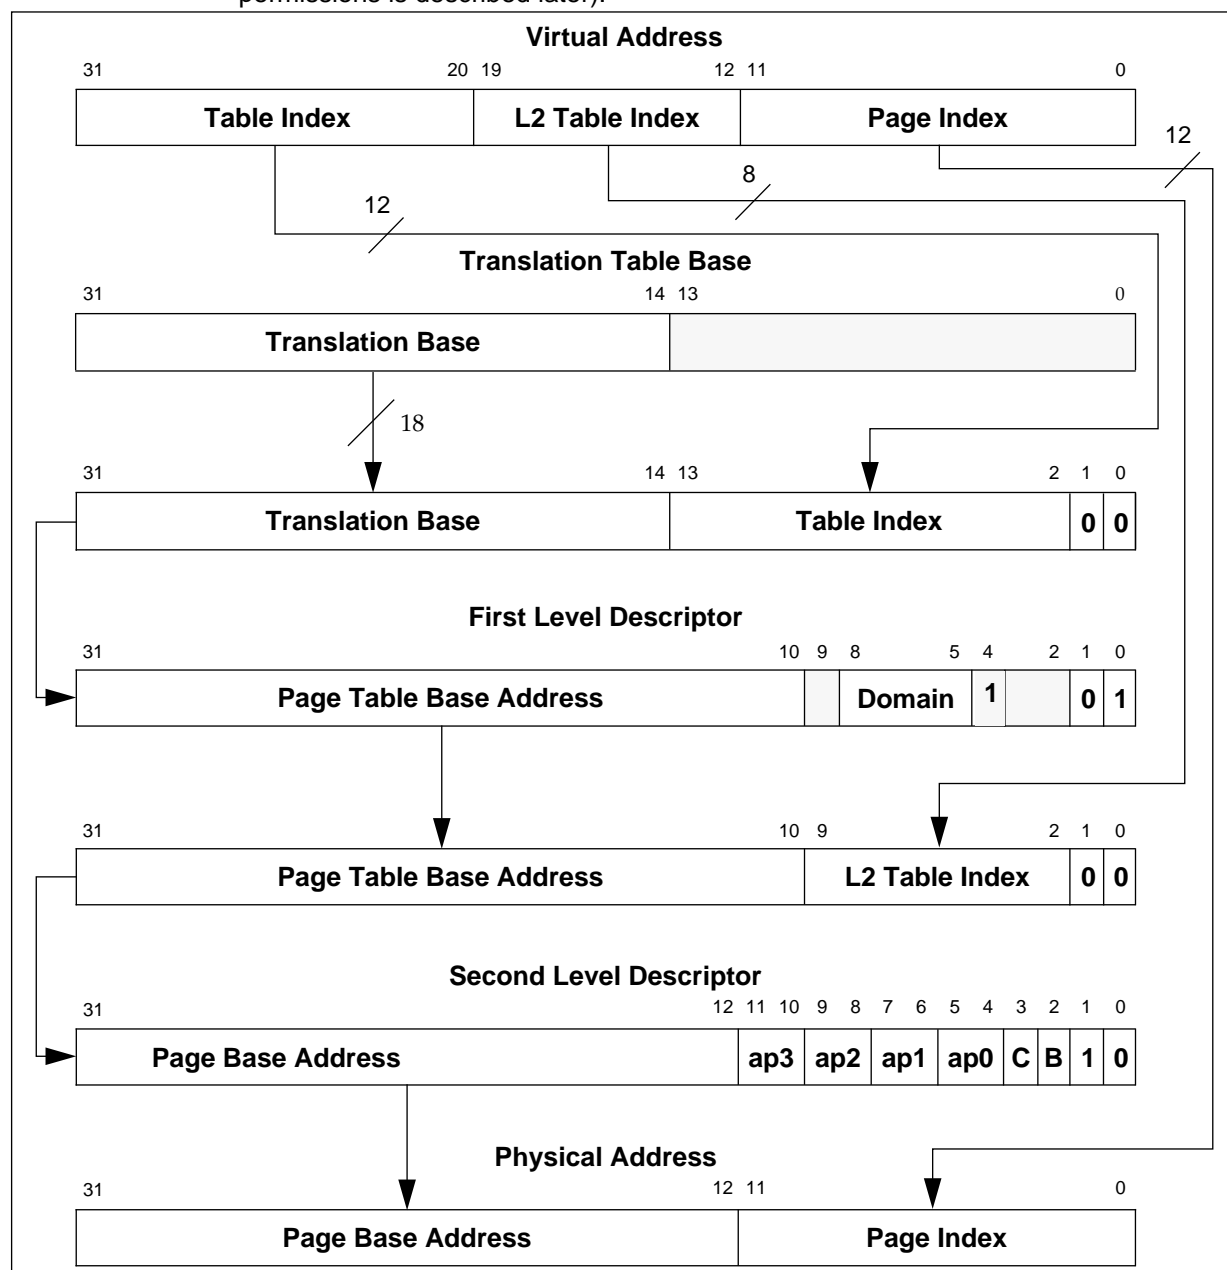
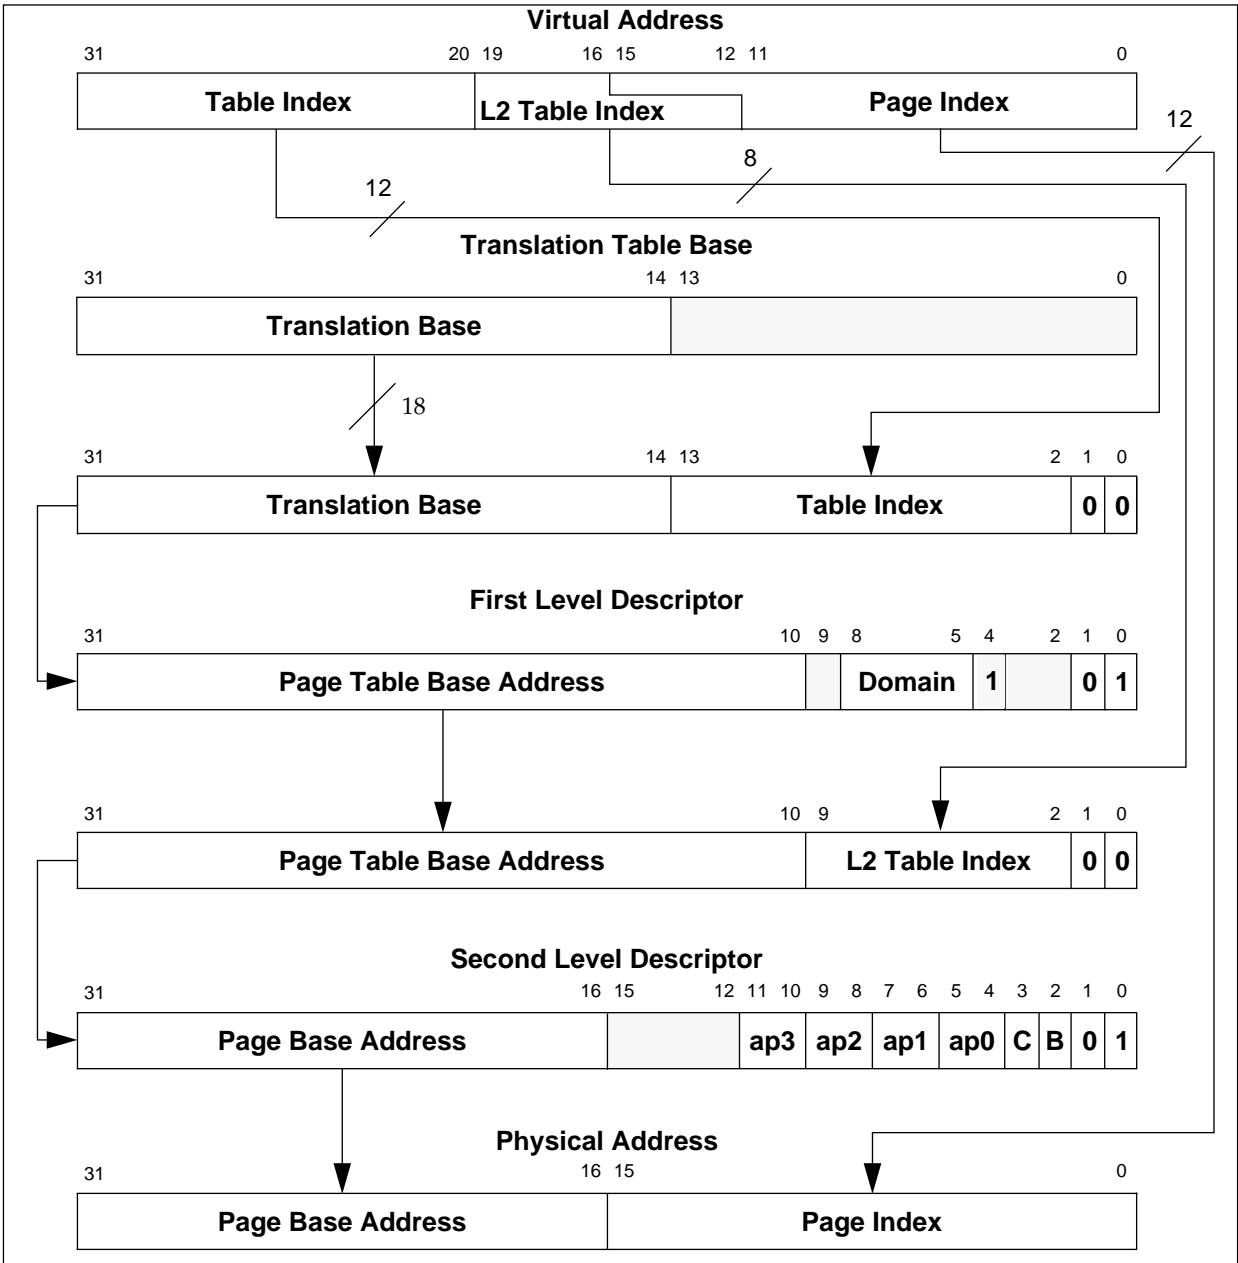

Figure 7-7: *Small page translation*
Figure 7-8: Large page translation
**Bits 31:10** form the base for referencing the Page Table Entry. (The page table index for the entry is derived from the virtual address as illustrated in  *Figure 7-7: Small page translation* on page 7-10).
If the Level One fetch returns a Page Table Descriptor, this provides the base address of the page table to be used. The page table is then accessed as described in Figure 7-7: Small page translation on page 7-10, and a Page Table Entry, or Level Two Descriptor, is returned. This in turn may define either a Small Page or a Large Page access. The figure below shows the format of Level Two Descriptors
**Bits 31:12** (small pages) or **bits 31:16** (large pages) are used to form the corresponding bits of the physical address - the physical page number. (The page index is derived from the virtual address as illustrated in Figure 7-7: Small page translation on page 7-10 and Figure 7-8: Large page translation on page 7-11).
Figure 7-7: *Small page translation* illustrates the complete translation sequence for a 4kB Small Page. Page translation involves one additional step beyond that of a section translation: the Level One descriptor is the Page Table descriptor, and this is used to point to the Level Two descriptor, or Page Table Entry. (Note that the access permissions are now contained in the Level Two descriptor and must be checked before the physical address is generated. The sequence for checking access permissions is described later).
Figure 7-8: Large page translation illustrates the complete translation sequence for a 64 kB Large Page. Note that since the upper four bits of the Page Index and low-order four bits of the Page Table index overlap, each Page Table Entry for a Large Page must be duplicated 16 times (in consecutive memory locations) in the Page Table.